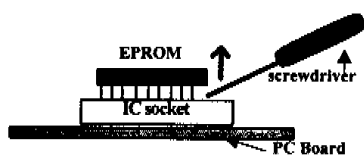

Figure 2
4. Using a pan head screwdriver or similar device, carefully remove the EPROM by slowly prying the EPROM out of its PC Board socket (Shown in figure 2). **HINT: Insert the screwdriver between the socket and the EPROM and slowly pry the EPROM out alternating from one side of the EPROM to the other.**